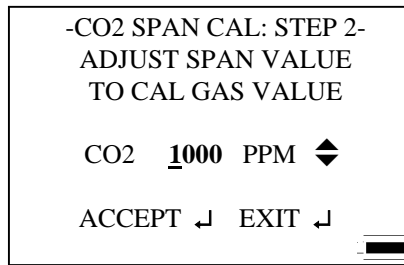

Figure 4-7: CO₂ Span Calibration: Step 2 Screen
8. Adjust the span value of the calibration gas being used by pressing \blacktriangleleft , or \blacktriangleright keys to move the cursor to the required field, and either the \blacktriangle or \blacktriangledown keys to increment or decrement the value. Press \downarrow to accept the calibration gas (Figure 4-7).